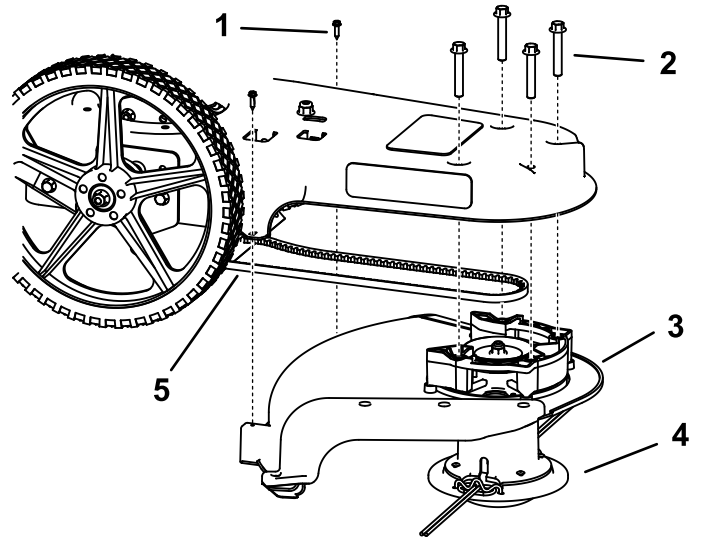

Figure 19
7. Secure the mower head and the shield (Figure 19).